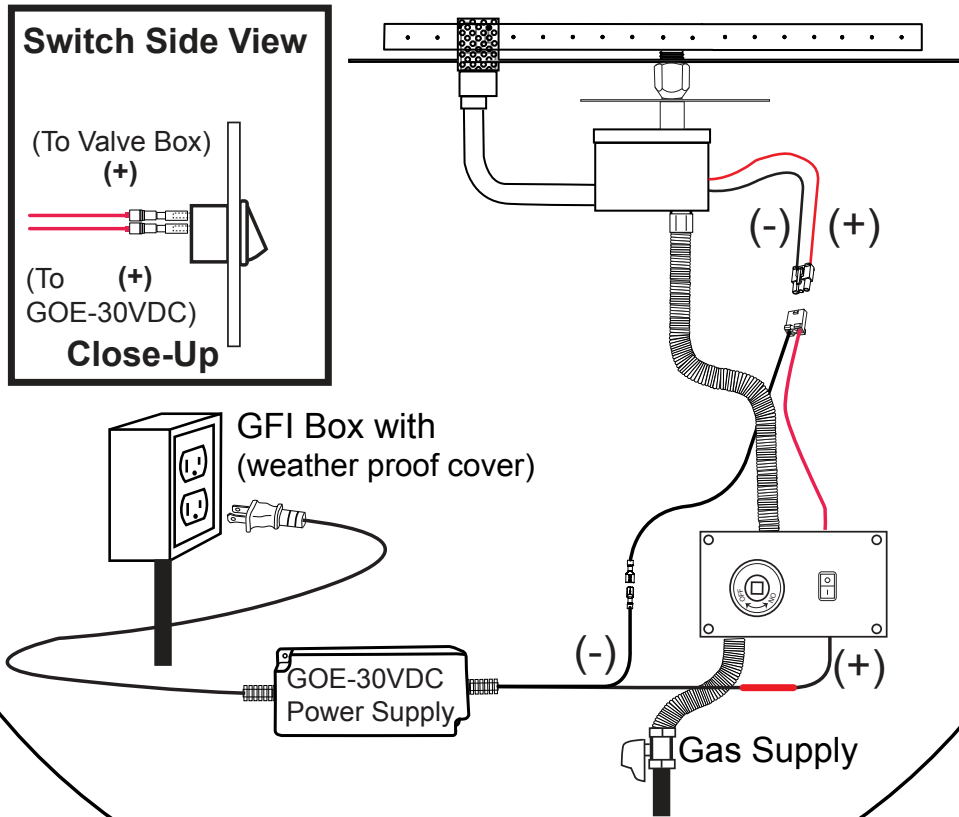

Fig. 19 AWS detail specifications.
1. Turn the manual key valve to the ON position. See Fig. 19 on page 15.